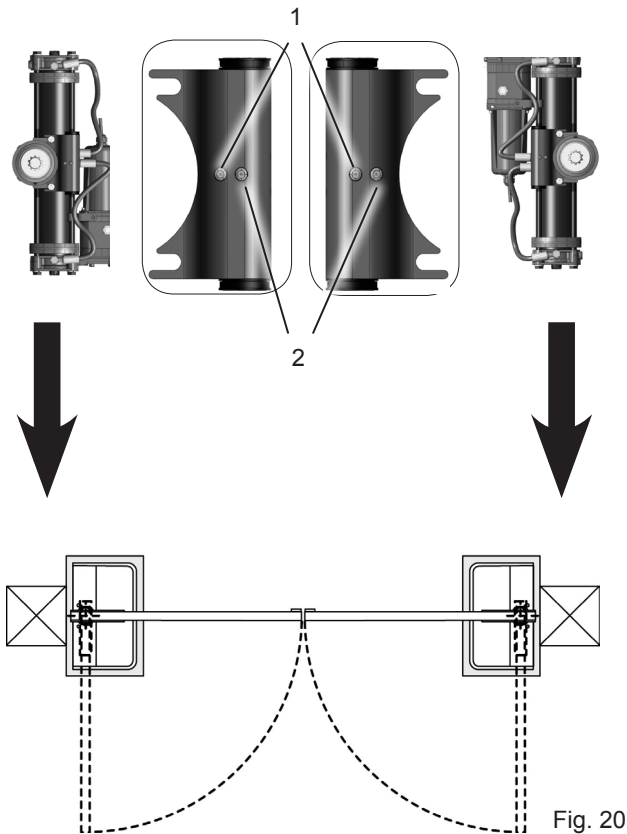

Fig. 20
- 2) During the leaf movement, loosen the opening bleed screw (Fig.20 ref.1)
- 6) During the leaf movement, loosen the closing bleed screw (Fig.20 ref. 2)